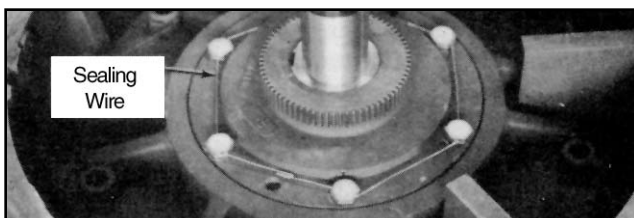

Figure 52
- Secure to rotor with screws and lock all screws in place with sealing wire as shown in Figure 52.